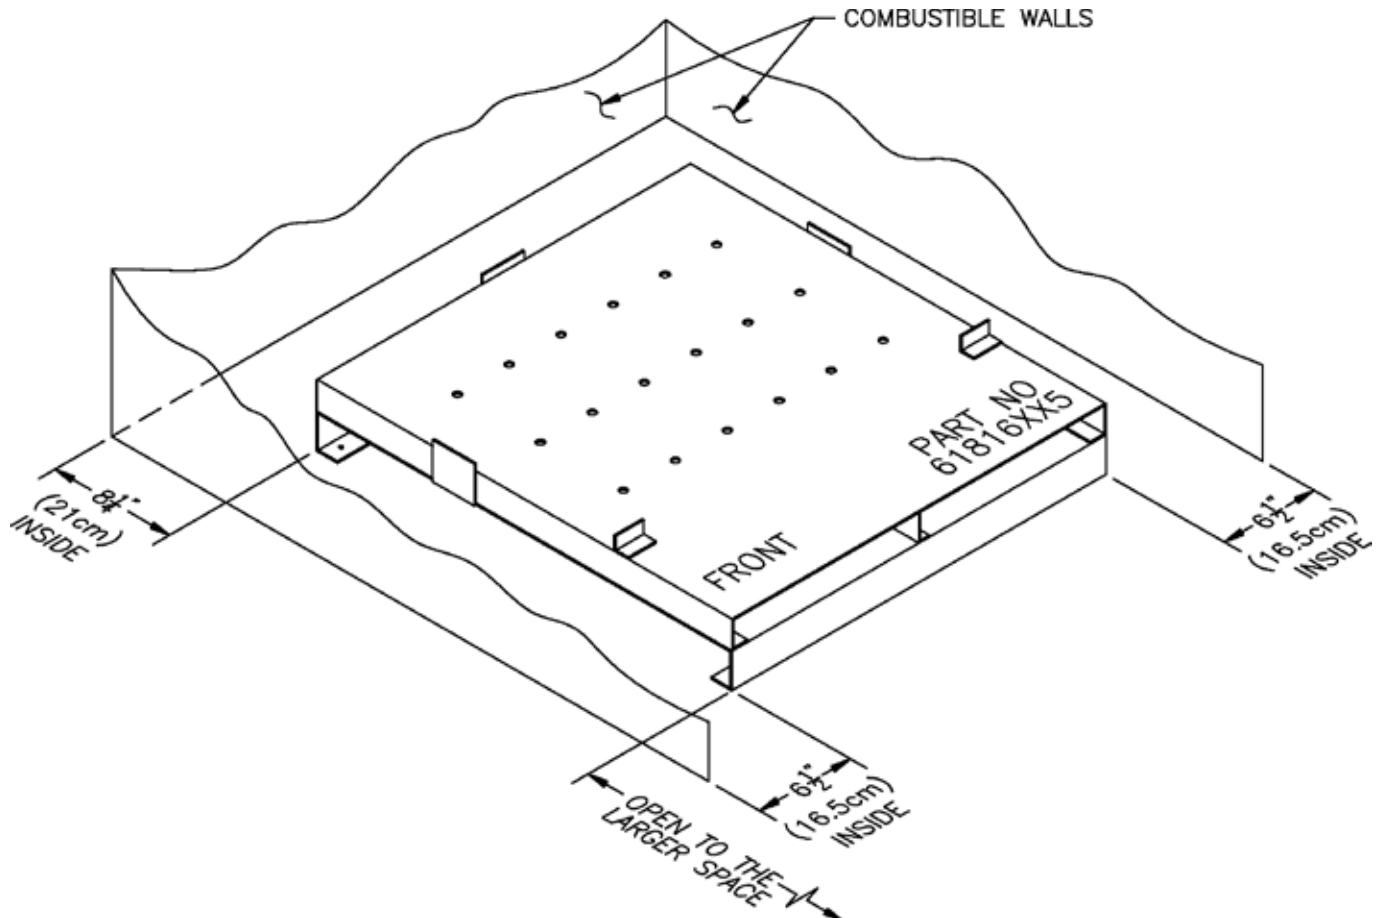

Figure 4: Installation of Special Base for Combustible Flooring
D Install special base if installation is on combustible flooring. See Figure 4. Floor shield adds 4¾" to boiler height.
2. Locate special base with spacing to combustible materials as shown in Figure 4.
4. Do not enclose boiler (including special base) on all four sides. Models 16G-340 may be enclosed on three sides (alcove) while maintaining clearances shown in Figure 4.